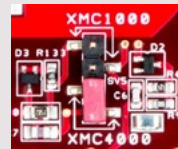

Figure 3
- > Connect the USB cable to your computer and to the control card. Debugger part of the control card is galvanically isolated from the power board. Place the jumper (Figure 3) into XMC1000 only if external slope is needed (i.e. peak current control with XMC1000 set up). Otherwise use XMC4000 position.